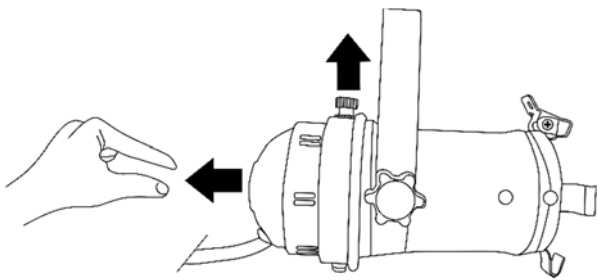
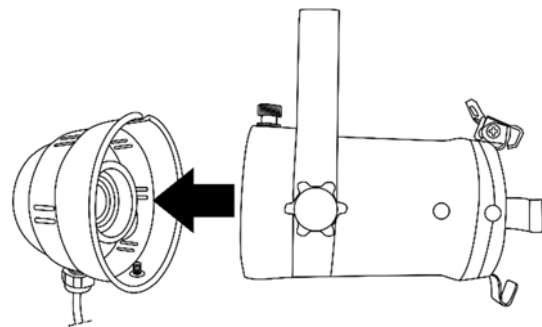

Fig. 03
Fig. 04
- 02) Pull the spring lever in the direction of the arrow and remove the rear cover of the lamp (fig. 03 and fig. 04).